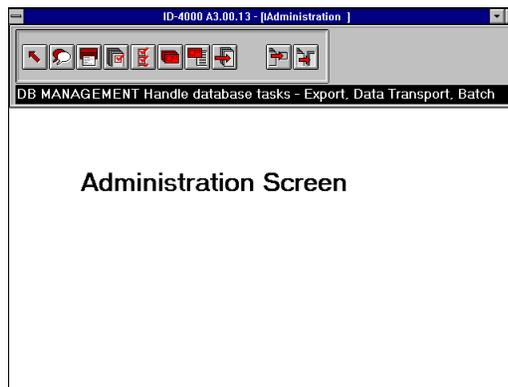

Figure 4-19. Administration Window
2. Choose the Administration button to display the Administration window (Figure 4-19).